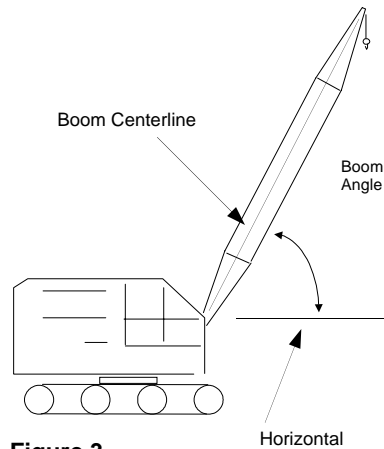

Figure 3
4. Boom up (Fig. 3) to at least 60 degrees.